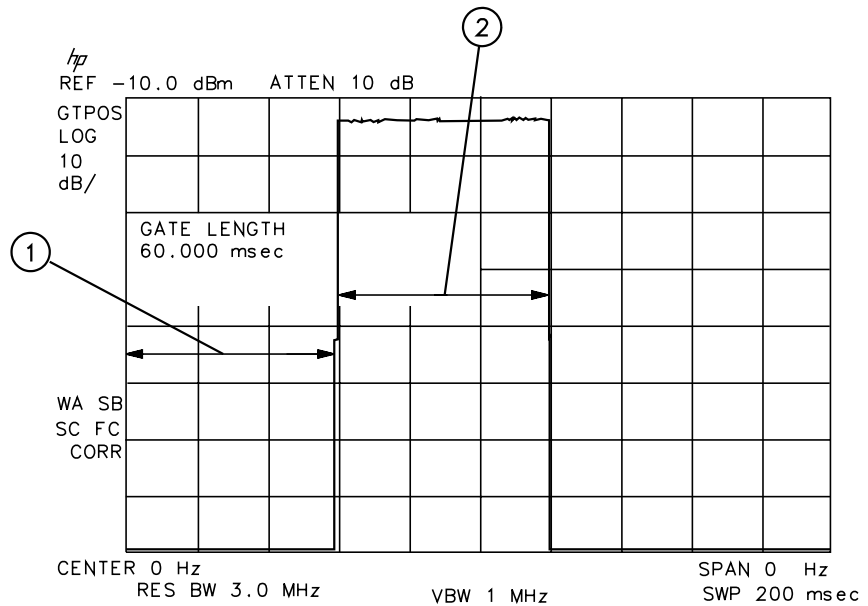

Figure 66 Gate On
- 3 Press **Previous Menu**, **GATE ON OFF** (so that **ON** is underlined). See Figure 66 on page 143.
Item	Description of Items in Figure 66